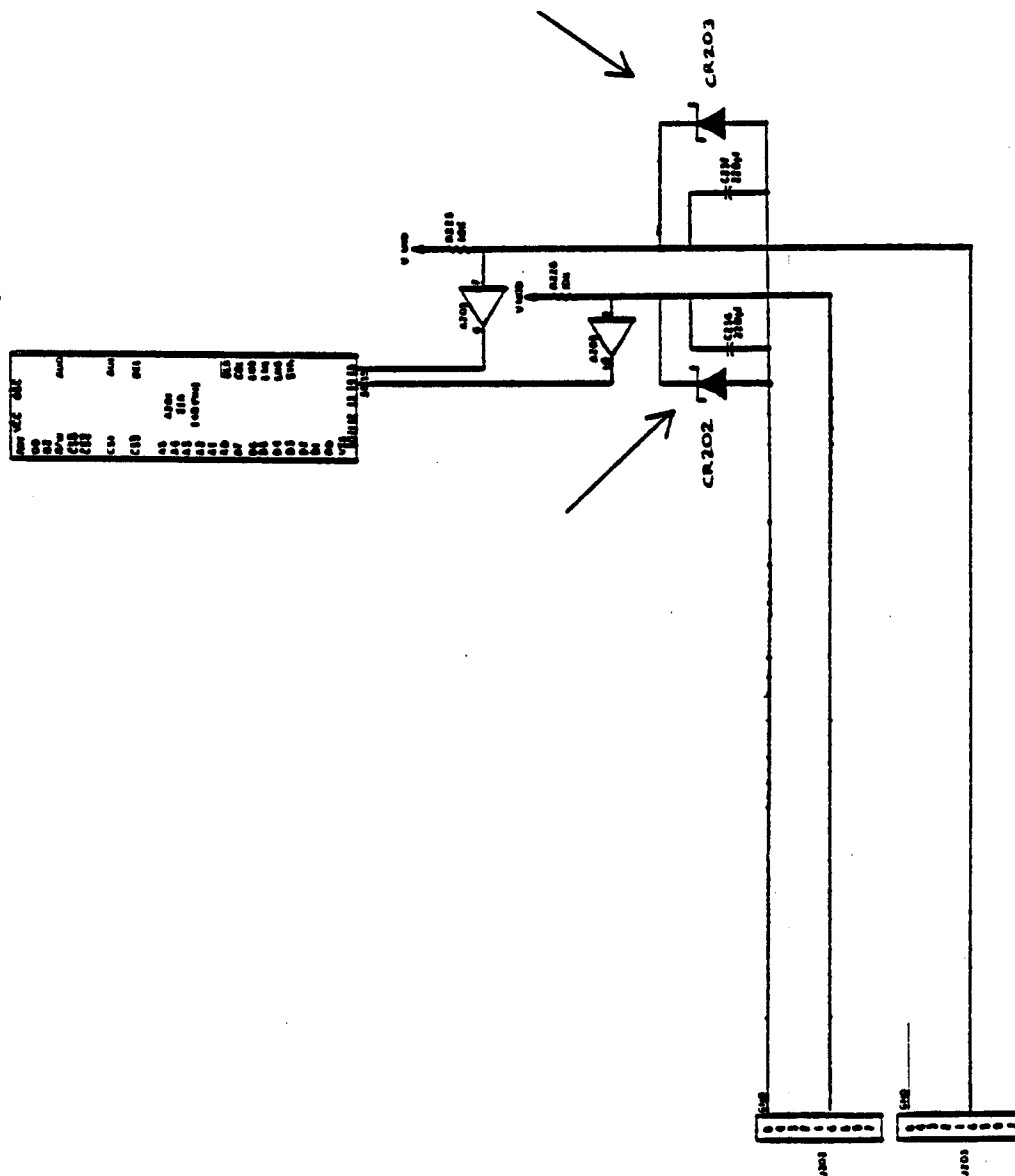

Figure 3-1. 2600 Trigger Circuitry with Static Modification
- Each 2600 model opened must be modified as shown in Figure 3-1 to provide additional protection from static discharge. A Zener diode is connected between the trigger lines and ground, and static strips are placed on the switches on the switchboard (See Figures 3-1, 3-2 and 3-4). These modifications are crucial to prevent component damage due to static discharge.